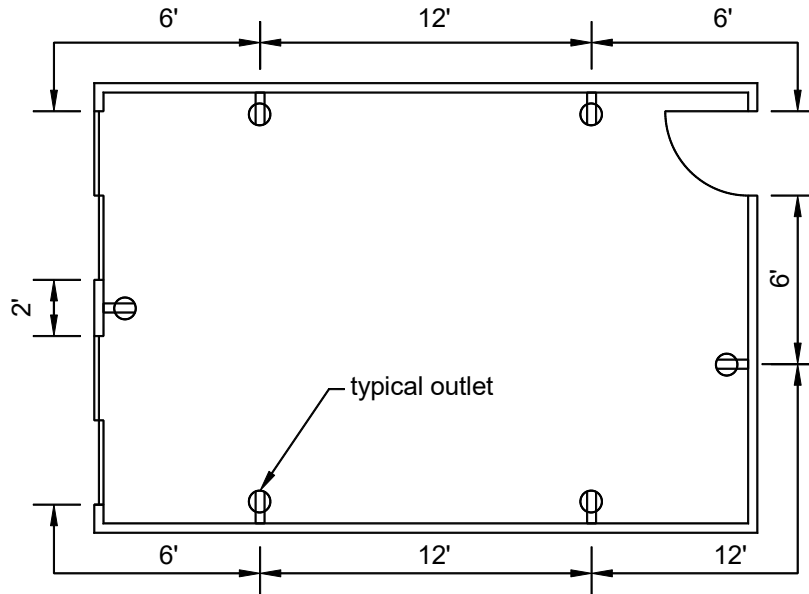

FIGURE 12: TYPICAL OUTLET DISTRIBUTION
- Receptacles shall be placed in accordance with FIGURE 12.